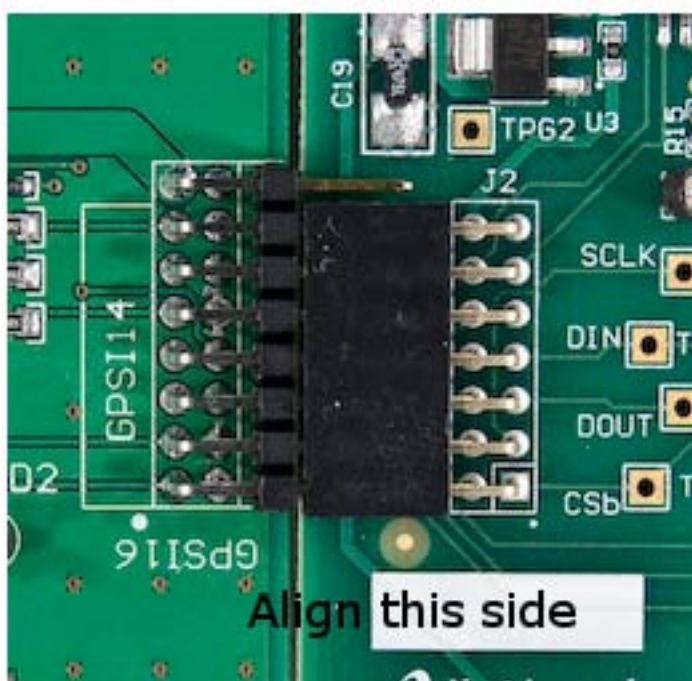

Figure 2: DAC161S055 Eval board connected to SPUSI board.
- Connect the SPUSI2 board to the DAC161S055 evaluation board. Ensure that you line up the SPUSI2 board with the GPSI14 pins as shown on the board (see Figure 2 ). Note that one set of pins will not match the header.